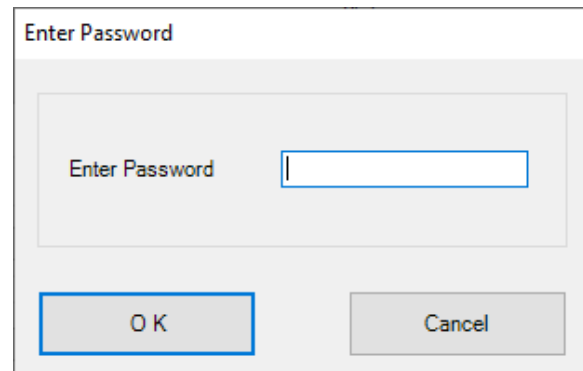

Figure 12.5 Example - Enter the Advanced Password
- The **Enter Password** screen will open, prompting for a password. Refer to Figure 12.5 Example.